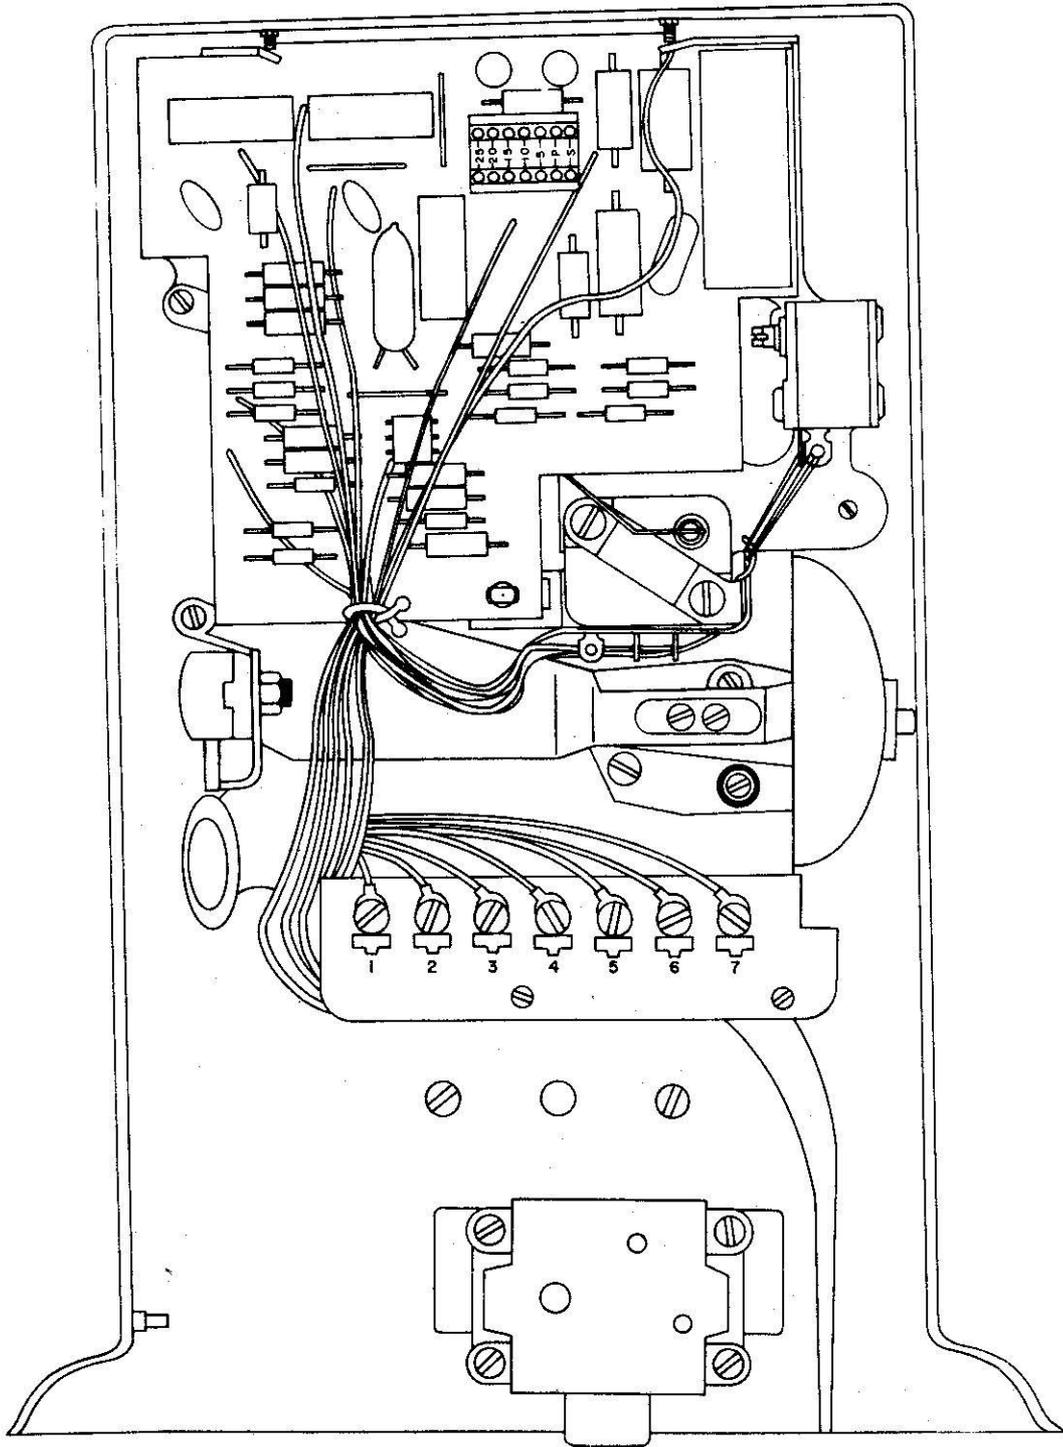

Figure 1 Multislot Coin Telephone Set Totalizer.
1.01 This section provides description, installation, and operation information for the multislot coin telephone set totalizer hereafter referred to as totalizer (Figure 1).